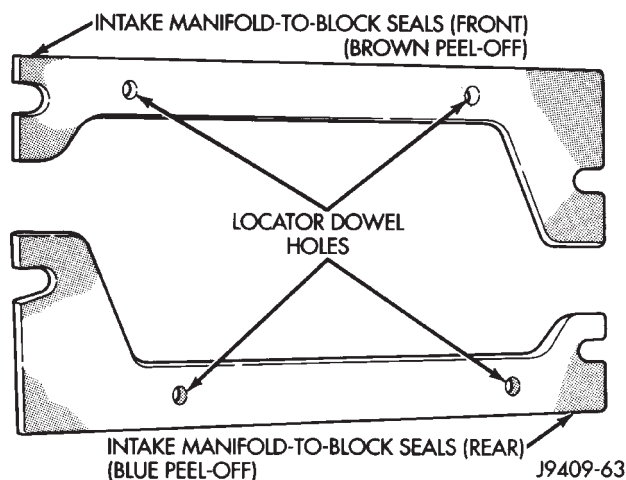

Fig. 22 Intake Manifold-to-Block Seals
(6) Peel off the protective paper (blue - rear and brown - front) and press firmly onto the block (Fig. 22). **BE SURE THE BLOCK IS OIL FREE.** Aligning slots in end seals with notches in intake manifold gaskets.